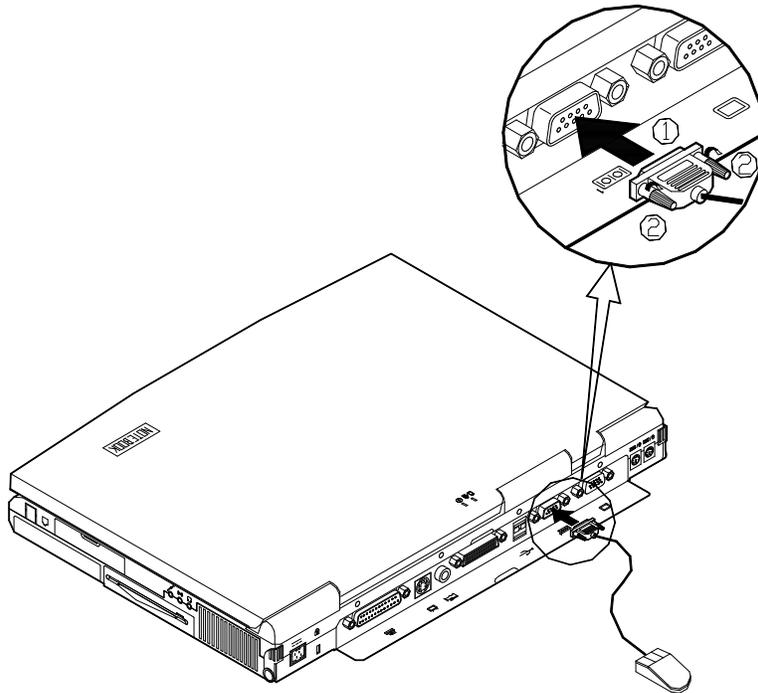

Figure 4-6
3. Tighten the screws that fasten the cable to the serial port (Figure 4-6).